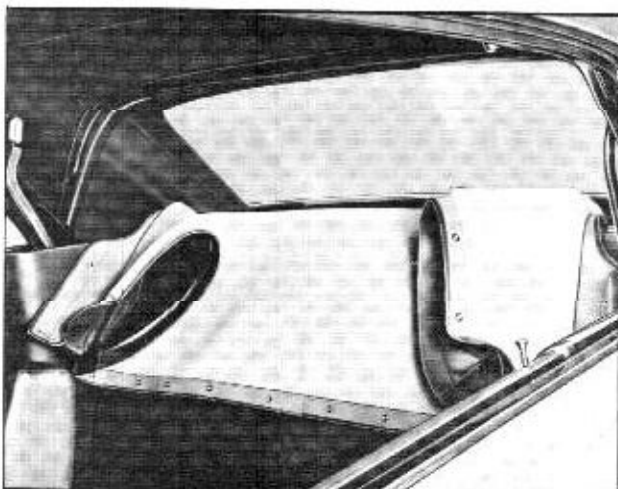

Fig. 15-62 Top Boot Assembly
1. Stop the car. If top boot has been stored in its retainer behind rear seat, turn boot over seat back and fold ends. (Fig. 15-62) It is not necessary to lower rear window or rear quarter windows before lowering top.
1. Stop the car. Disengage all top boot snap fasteners from studs, turn boot over seat back and fold ends of boot toward center. If thoroughly dry, top boot may be removed from retainer, folded and placed in protective case. (Fig. 15-62)